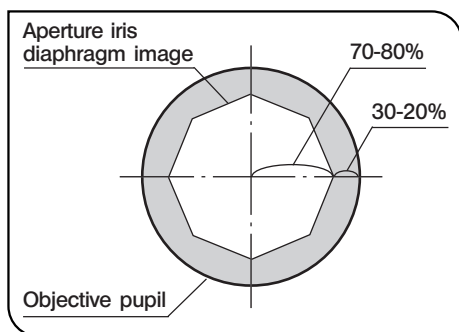

Fig. 31
Aperture Iris Diaphragm (Figs. 31 & 32)
- Since the contrast of microscope specimens is ordinarily low, setting the condenser aperture iris diaphragm to between 70 and 80% of the NA. ② of the objective in use is usually recommended. Adjust the ratio by removing the eyepiece and looking into the eyepiece sleeve while adjusting the aperture iris diaphragm ring ① until the image shown in Fig. 31 is seen.